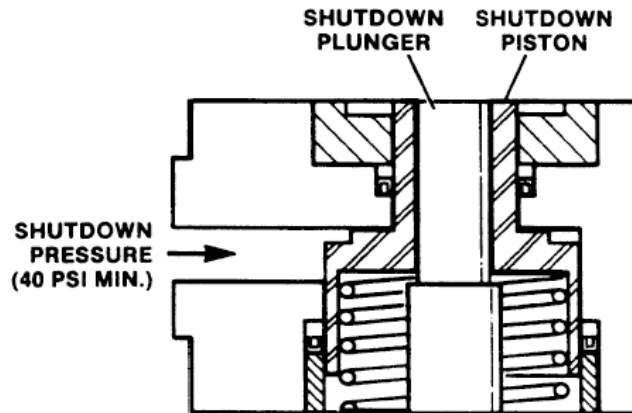

Figure 2-1. Shutdown Cover Plate
2. Remove two 3/8 inch hex head 1/4-20 screws (1), shutdown cover plate (2), and gasket (3) from the governor cover (Figure 2-1).
1. Remove two screws (1) and shutdown cover plate (2) from the governor cover. Do not remove gasket (3) from the cover unless replacement with a new gasket is necessary. Figure 2-1.
3. Install gasket (3) cover plate (2) and two screws (1). Torque all 1/4-20 screws to 90 lb-in (10 N·m). Figure 2-1.
5. Cover plate (2) Figure 2-1, is not used with this installation.
3. Install gasket (3), cover plate (2), and two screws (1), Figure 2-1. Torque all 1/4-20 screws to 90 lb-in (10 N·m).
5. Cover plate (2), Figure 2-1, is not used with this installation.